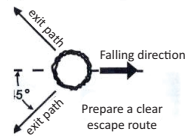

Fig.2
6.1 Basic rules for felling trees (Fig. 2,3)